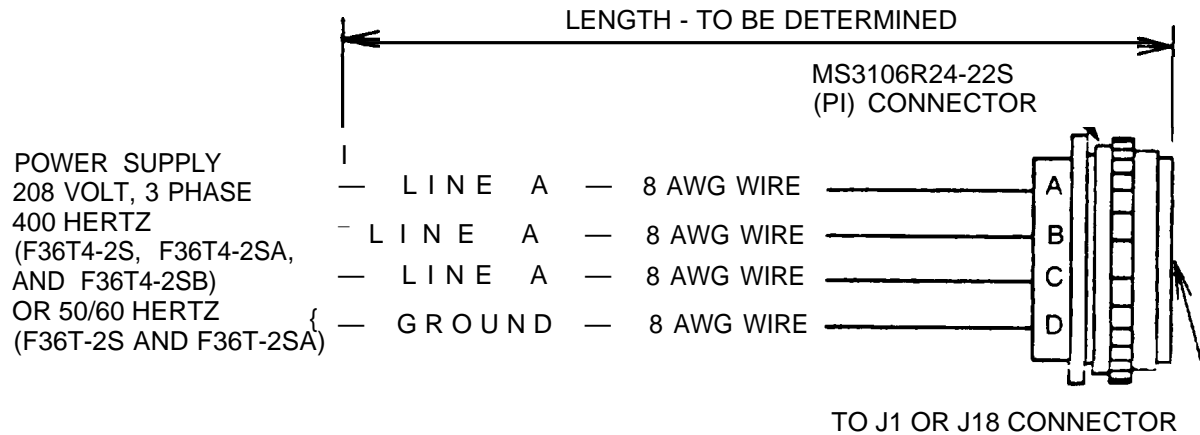

Figure 4-22. Input Power Cable Diagram
- b. Fabricate input power cable in accordance with Figure 4-22.